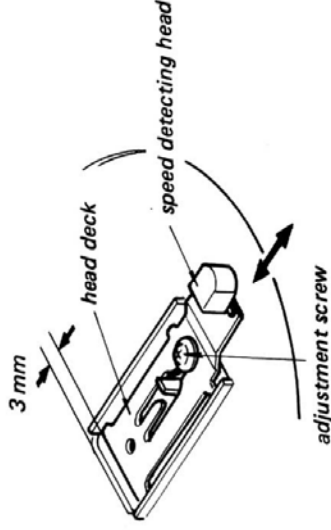

Fig. 3-12.
2. Set the head deck as shown in Fig. 3-12.
5. Adjust the PITCH control (33) so that the stroboscope pattern appears stationary.